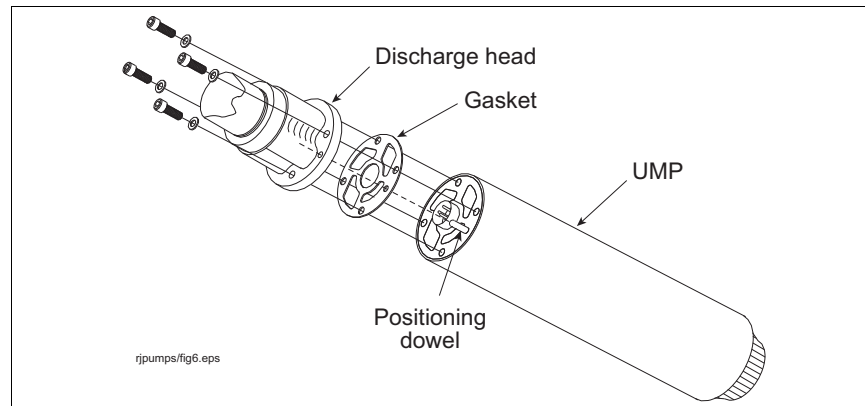

Figure 23. UMP bolts and gasket
4. Remove the old UMP by removing the four bolts holding the discharge head as shown in Figure 23. Discard the old gasket and fasteners.
4. Remove the UMP by removing the four bolts holding the discharge head as shown in Figure 23 on page 24. Discard the old gasket and fasteners.